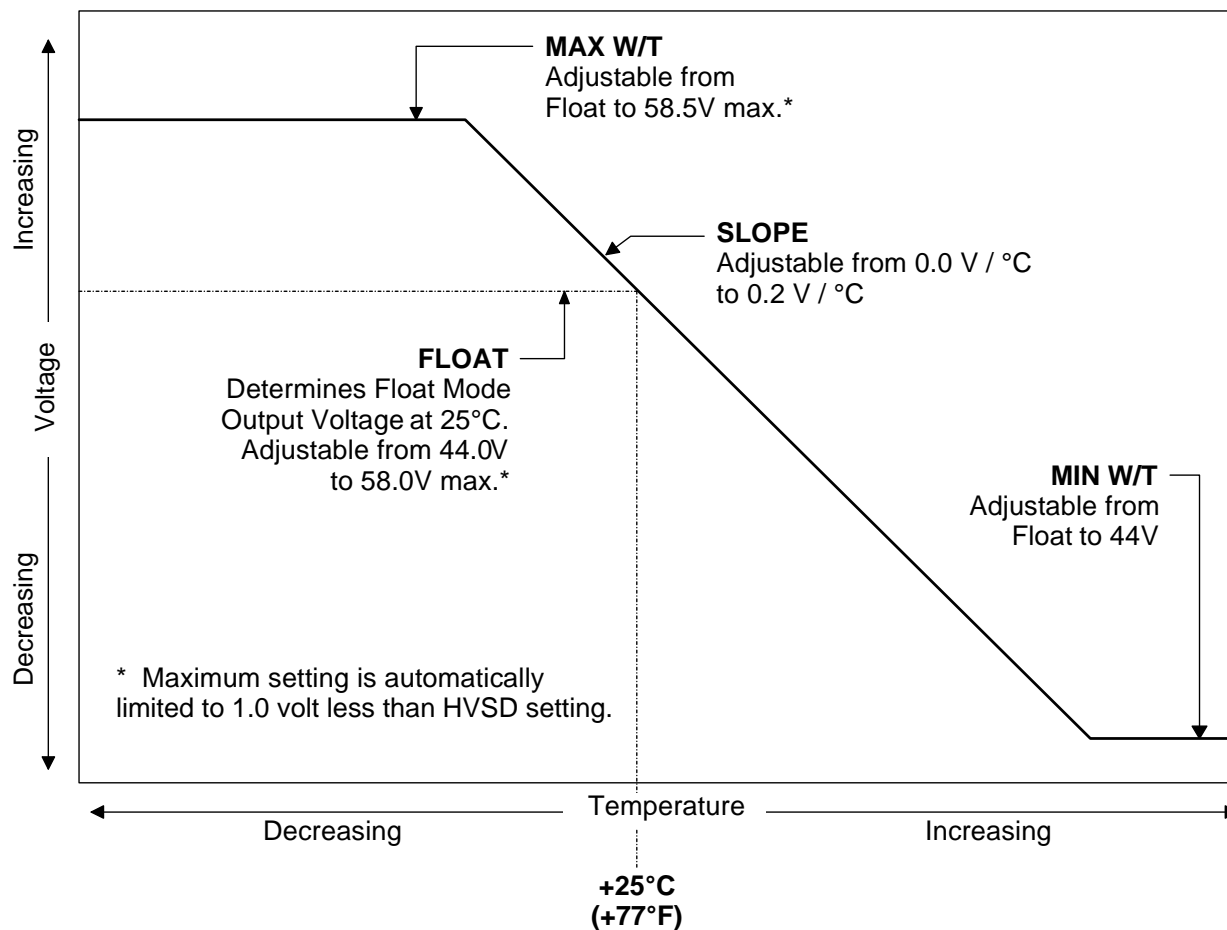

Figure 1
- (A) **Without Battery Charge Temperature Compensation:** Float voltage is adjustable from 47.00 to 58.00 volts DC. Equalize voltage is adjustable from 47.00 to 58.00 volts DC. Battery Test voltage is adjustable from 45.00 to 58.00 volts DC. Float, Equalize, and Battery Test voltages are factory set at 54.00 volts, unless otherwise specified. The output voltage temperature coefficient does not exceed 0.01% per degree centigrade from -40°C to +65°C.
- (B) **With Battery Charge Temperature Compensation Probe:** With an optional battery temperature probe installed, the MCA automatically increases or decreases the output voltage as battery temperature decreases or increases, respectively. Float voltage is factory set at approximately 54.48 volts at 25°C battery temperature. The Float, Equalize and Battery Test voltage ranges are the same as without battery charge temperature compensation. Using battery and equipment manufacturers' recommendations, the user selects the following temperature compensation curve parameters via the MCA. Figure 1 details a user defined Temperature Compensation Curve.
- (1) The temperature compensation slope in volts/°C. Adjustable from zero to 200 millivolts/°C. Factory set at 0V/°C (NO TEMPERATURE COMPENSATION).
- (2) The maximum voltage limit in volts DC. Adjustable from float up to 58.00 volts DC, but automatically limited to one volt below the High Voltage Shutdown setting. Factory set at 56.50 volts DC.
- (3) The minimum voltage limit in volts DC. Adjustable from float down to 47.00 volts DC. Factory set at 52.00 volts DC.